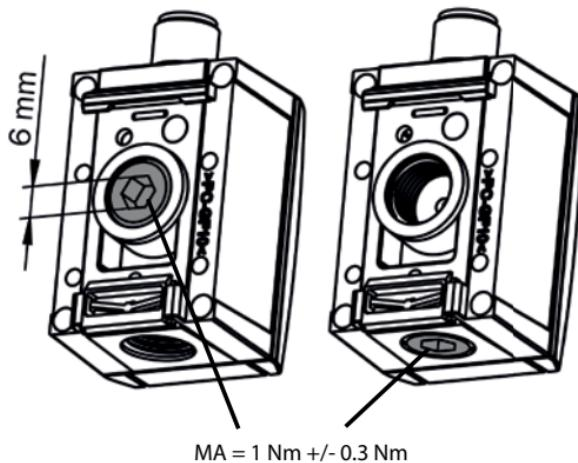

Figure 11: Pressure connection for G 1/4 female thread
5.4 Pressure connection via the G 1/4 female thread (Figure 11)